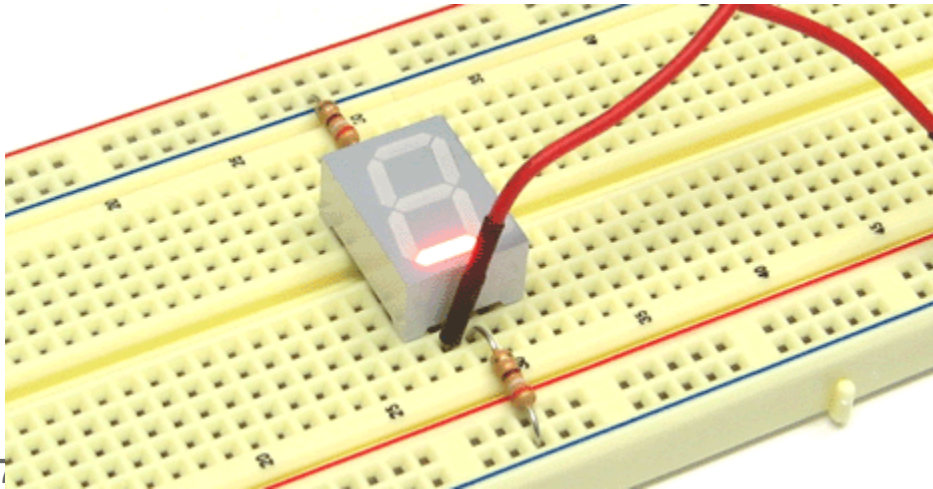

Figure 17
3. Insert the other end into any open hole aligned directly above or directly below a pin on the seven-segment display, as shown in the video and in Figure 17. **NOTE: Do not let the tip of the jump wire touch either resistor - this may cause a short circuit!**